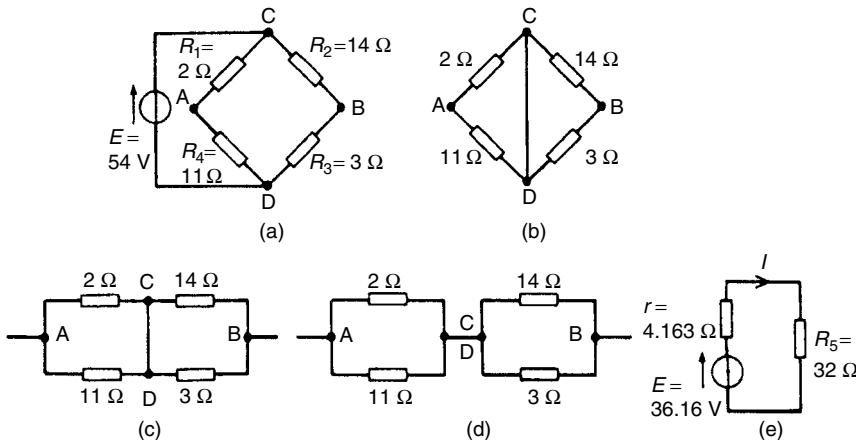

Figure 13.47
- The 32 Ω resistor is removed from the circuit as shown in Fig. 13.47(a)
- (iii) Replacing the source of e.m.f. with a short-circuit (i.e. zero internal resistance) gives the circuit shown in Fig. 13.47(b). The circuit is redrawn and simplified as shown in Fig. 13.47(c) and (d), from which the resistance between terminals A and B,
- (iv) The equivalent Thévenin's circuit is shown in Fig. 13.47(e), from which, current